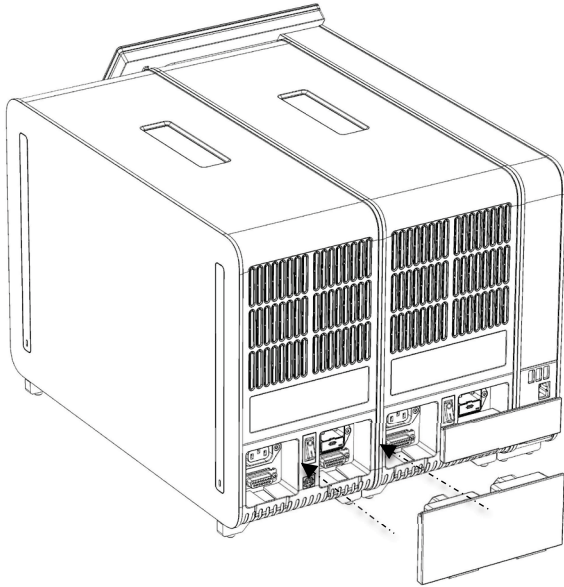

Figure 18. Connecting the Analytical/Analytical Module Bridge.
6. Connect the Analytical/Analytical Module Bridge at the back of the QIAstat-Dx Analyzer 1.0 to link the two Analytical Modules together (Figure 18, next page).